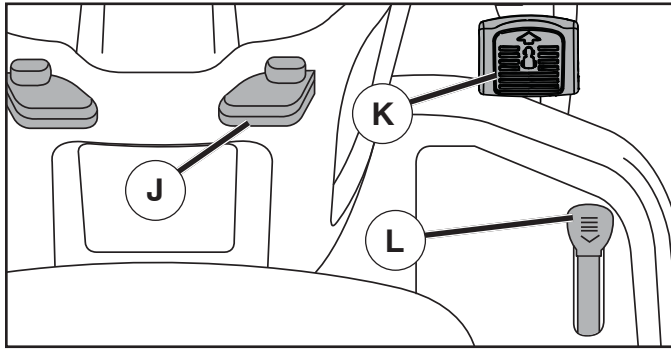

Fig. 20
(See Fig. 20)
- Slowly depress forward (K) or reverse (L) drive pedal to begin movement. Ground speed increases the further down the pedal is depressed.
## TO USE CRUISE CONTROL (J) (See Fig. 20)